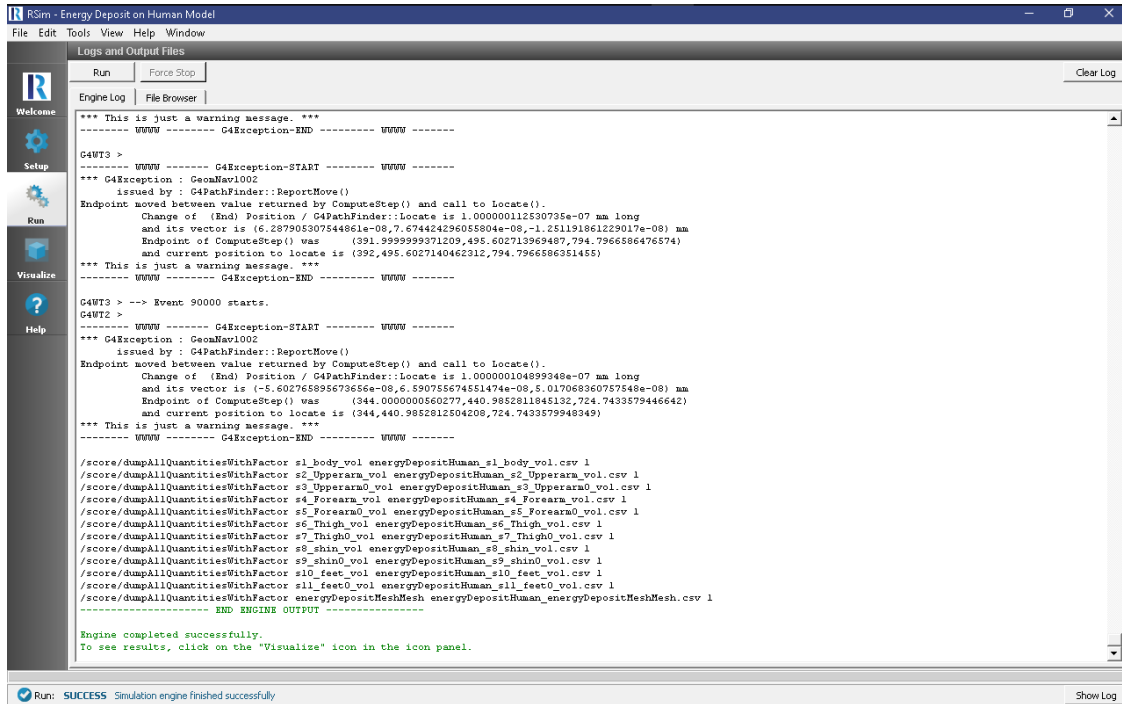

Fig. 2.7: The Run Window at the end of execution.
- To run the file, click on the *Run* button in the upper left corner of the *Logs and Output Files* pane. You will see the output of the run in the right pane. The run has completed when you see the output, “Engine completed successfully.” This is shown in Fig. 2.7.